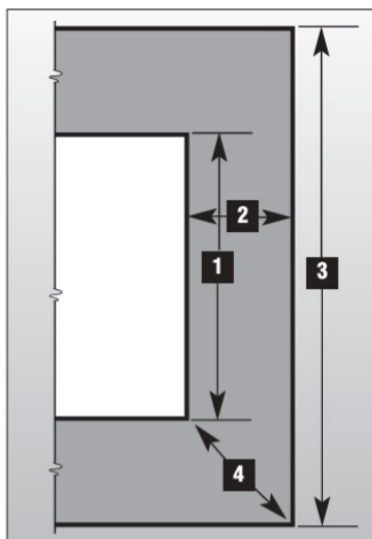

Figure 1. Measurement Diagram
- 1.4.1.5 See **Figure 1** for more details regarding these measurements. The numbers in the illustration correspond to the step numbers above.
- The soffit is attached to the wood fascia board with (1) 1/4" Crown x 1" Leg, 18-gauge, Galvanized Staple at each groove. BASL Fascia cover attached to wood with (1) 0.100" x 1 1/4" Trim Nail spaced 12" o.c. into the wide face, and (1) 0.100" x 1 1/4" Trim Nail spaced 12" o.c. into the narrow edge of the fascia board.
- Staple groups (of 3) shall be arranged as shown in **Figure 1**.